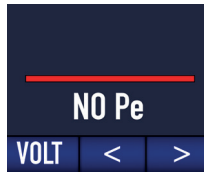

Fig. 2
- 2.2. If an error occurs due to incorrect wiring or a high voltage detected on the earth, the bar will turn red and an audible alarm will sound. The unit will display the failed parameter on the screen (examples in Fig 2 and 3).